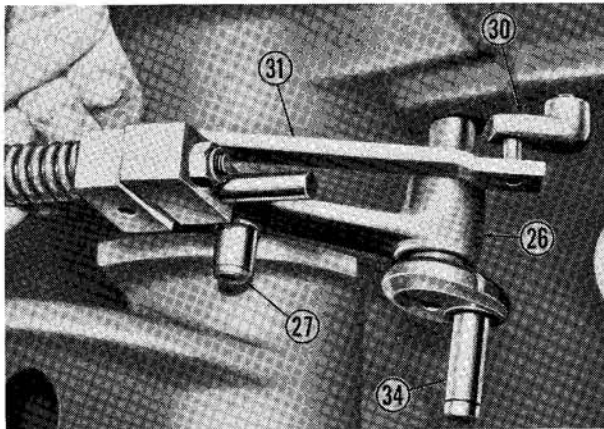

Fig. 213—Removing position control linkage and control lever shaft. Refer to Fig. 210 for legend.
271. With the lift cylinder assembly removed as outlined in paragraph 262, proceed as follows: Remove quadrant (22—Fig. 210), then remove self-locking nut, spring (19) and flat washer from control lever shaft (34). Pull control lever (20) from shaft, remove the Woodruff key and friction disc (23), then unbolt and remove quadrant support and tube (25) from lift cover. Remove lift arms and cross shaft as outlined in paragraph 270. Unscrew main draft control spring yoke (89) and remove the spring (88). Slide fork (105) from pin on control valve actuating lever (99) and remove the fork, rod, spring and plunger as a unit (Fig. 215). Remove snap ring (100—Fig. 210) retaining actuating lever to control lever shaft (34) and remove actuating lever and turnbuckle (102). Remove pin from selector lever shaft (30) and remove the position control linkage and control lever shaft as a unit; refer to Fig. 213.